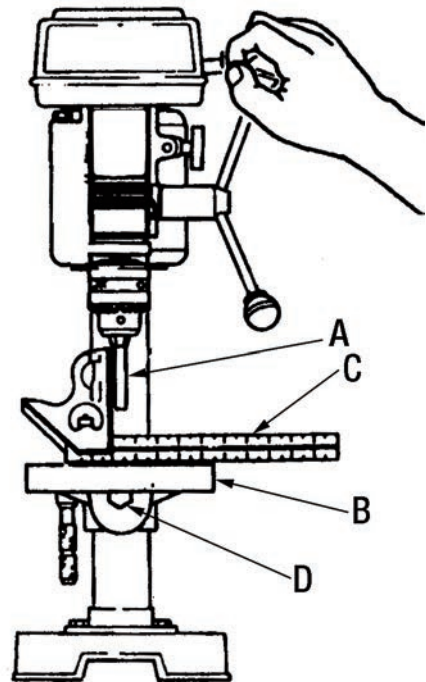

FIGURE 21
1. Insert a precision round steel rod (A) Fig.21 approximately 3" long into the chuck and tighten.
2. With the table (B) raised to working height and locked into position, place a combination square (C) flat on the table beside the rod.
3. If an adjustment is necessary, loosen the table bevel lock bolt (D) with an adjustable wrench. This adjustment is located under the table.
To use the table in a bevel position, loosen the bevel lock bolt (D) Fig.21 with an adjustable wrench. Tilt the table to the desired angle by reading the bevel scale on the table support. Retighten the bevel lock bolt.